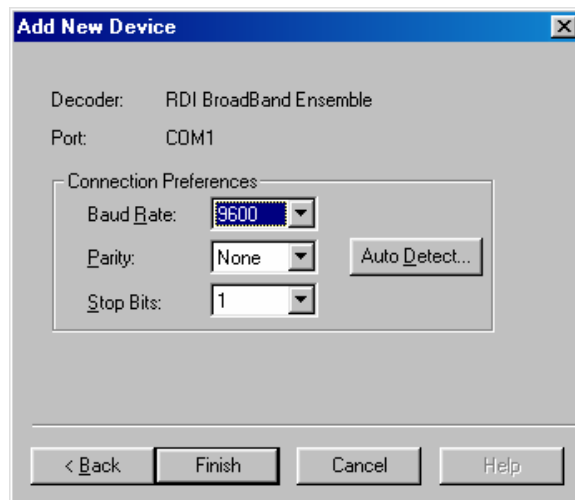

Figure 3. Setting the Communication Settings
- e. Select the baud rate, parity, and stop bits (see Figure 3). If you are unsure of the settings, use **Auto Detect**.